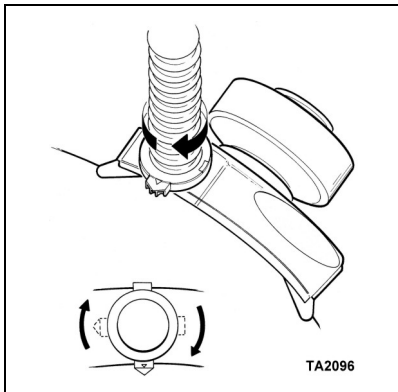

Fig. 5
7. Fit the face-piece to the blower by inserting the hose connector into the blower outlet. This is only possible when the arrow on the connector is aligned with the arrow on the blower body (see Fig. 5). Rotate the connector clockwise past the notch. This secures the connector to the blower.